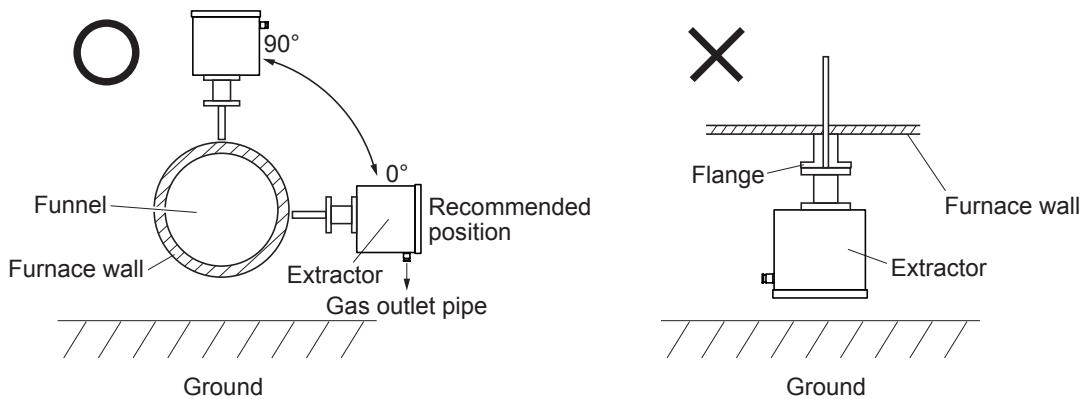

Fig. 5-1 Mounting angle
- Limit of insertion angle (Fig. 5-1)